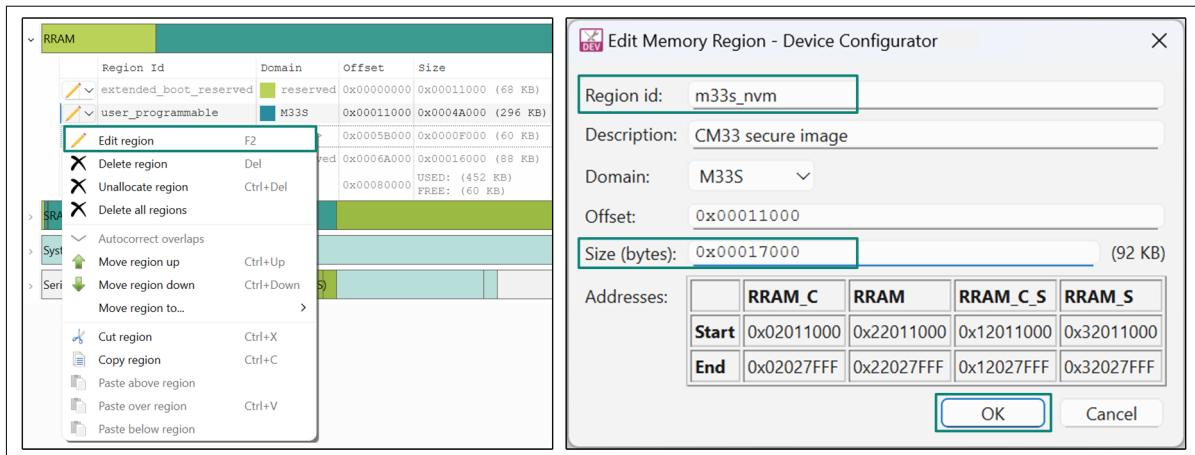

Figure 16 Update the RRAM memory layout
4. Under RRAM section, there is a predefined memory region `user_programmable` in the CM33 secure domain which is already located at default RRAM boot address for the CM33 secure app (0x32011000). We shall modify the name of this memory region as `m33s_nvm` to place the CM33 secure project and update the size of the memory region as 92 KB (0x00017000) as shown in Figure 16